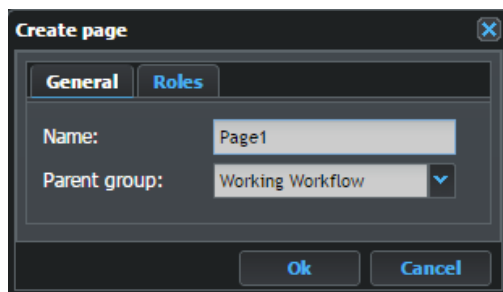

Fig. 3-90: Adding a New Workflow Page
- 3 Select a Parent group (and role if required) and click **Ok** to confirm as shown in Figure 3-90: